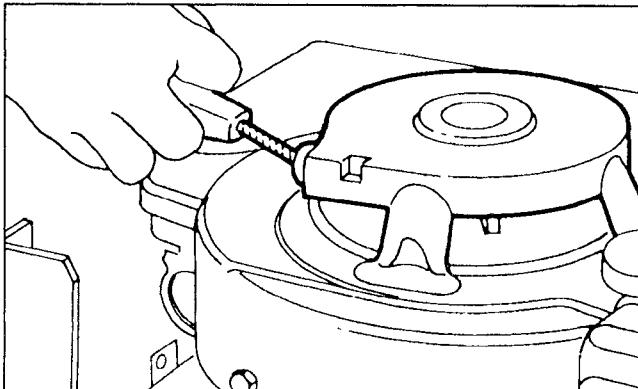

Figure 10
**Back-Up Recoil Starter** (Fig. 10) — Recoil starter must be used in conjunction with ignition switch. After turning ignition key to ON position, pull recoil starter handle to start engine.